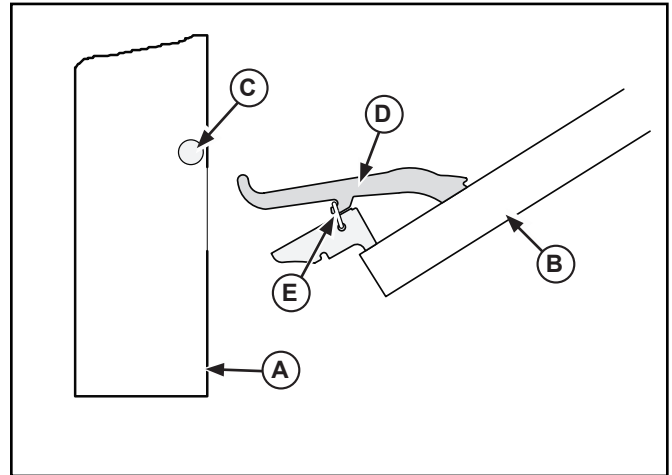

Figure 6. Oven Door removal and Installation.
9. Carefully set the oven door (B) into the oven (A). Place the arm (D) so that it sets under pin (C). See Figure 6.